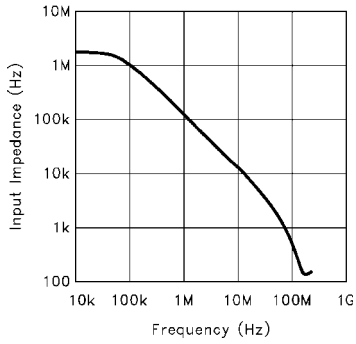

FIGURE 2. EL2002 INPUT IMPEDANCE
Earlier we said that one of the attributes of an ideal buffer was infinite input impedance. Illustrated in Figure 2 is a plot of the input impedance of the EL2002, 180MHz Unity Gain Buffer. Clearly, at low frequencies, the input impedance is above 1M Ω ; however, as the frequency increases the β decreases and the input impedance drops accordingly per equation (5). In fact there is a doublet in the vicinity of 50MHz where the input capacitance of the EL2002 and the source resistance create the additional pole. This behavior is typical of all 0002 type buffers and whereas it is not fatal, the user should be aware of the issue.